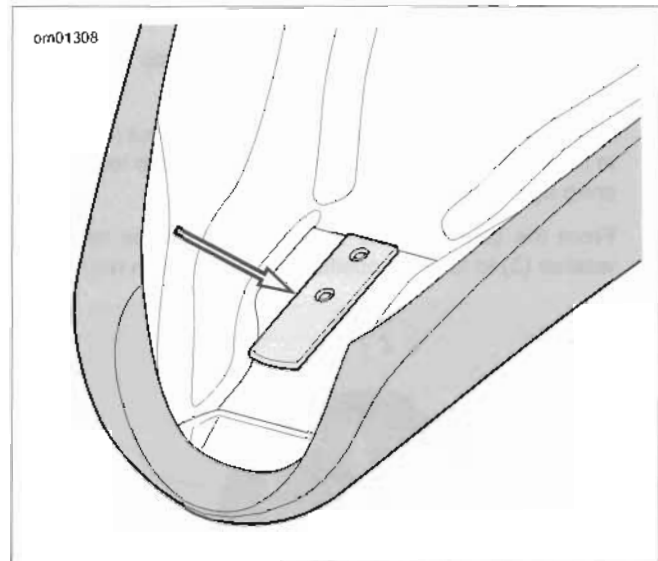

Figure 2-134. Seat Tongue (typical)
2. See Figure 2-134. Push seat rearward to free tongue at front of seat from slot or bracket in frame back.